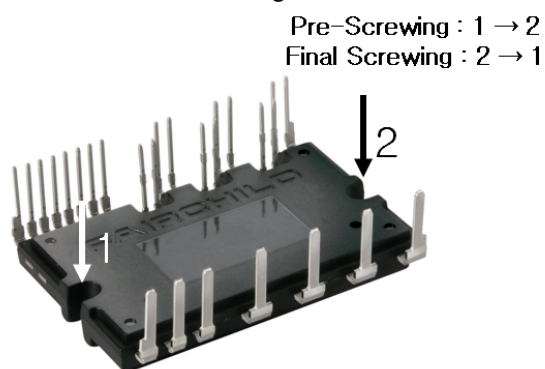

Figure 3. Mounting Screws Fastening Order:
When installing a module to a heat sink, excessive uneven fastening force might apply stress to the inside of chips, which leads to damage or degradation of the device. Figure 3 shows recommended fastening order.
- Avoid tightening only one side at once. Figure 3 shows the recommended torque order for mounting screws. Uneven mounting can damage the ceramic substrate. The pre-screwing torque needs to be set as 20~30% of the maximum torque rating.